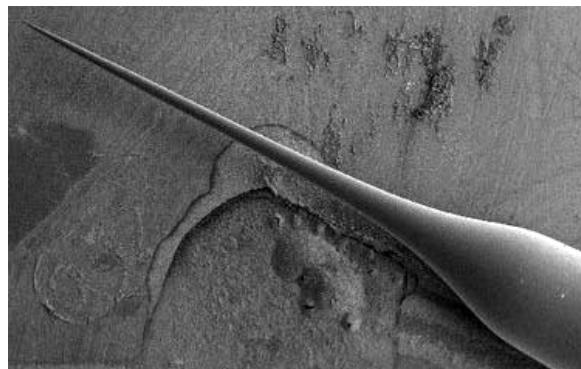

Figure 1
Figure 1&2: Scanning electron micrographs of the electrode used for ion detection, demonstrating the overall shape of the electrode and the geometry of the tip. Shape is important in producing a stable column of cocktail. Scale bars are 1mm (A), 1µm (B) and 1µm (C). Smith et al. (1999) *Micros. Res. Tech.* 46: 398-41.